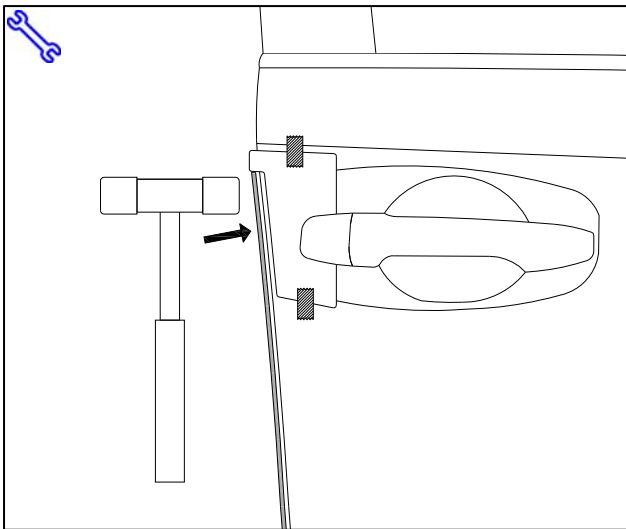

Fig. 1-11
- (n) While holding DEG in proper alignment with one hand (indicated by arrow), use **soft side of the rubber mallet** to begin tapping the channel onto the door edge starting at the top of the DEG. (Fig 1-11)